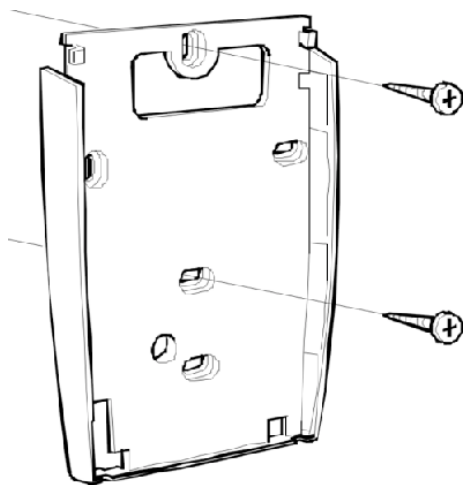

Fig. 2. Mounting of the wall plate
4. Loosely insert the mounting screws into the holes and tighten them (see Fig. 2).